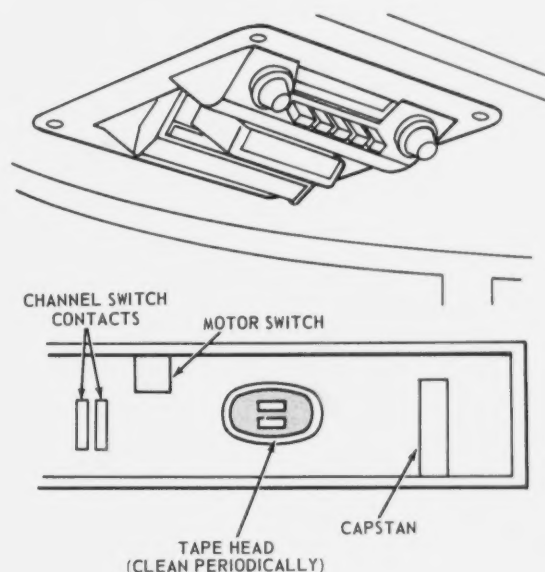

Fig. 89—Tape Player Head
1. If the operator's cab is equipped with a stereo tape player, clean the tape head occasionally. After many hours of operation, brownish colored oxides from the tapes will accumulate on the tape head (Fig. 89).